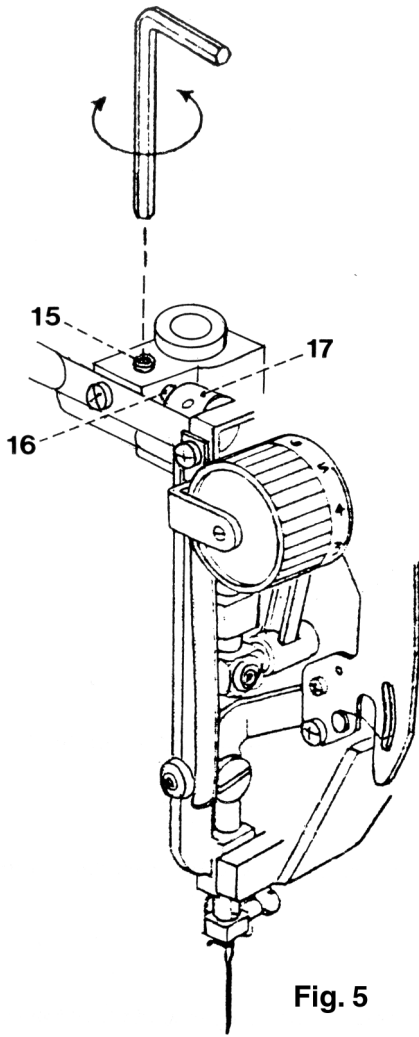

Fig. 5
- Set control knob to straight stitch and "left" needle position (fig. 5).
- Loosen screw 15 with a 2.5 mm Allen key (fig. 5).